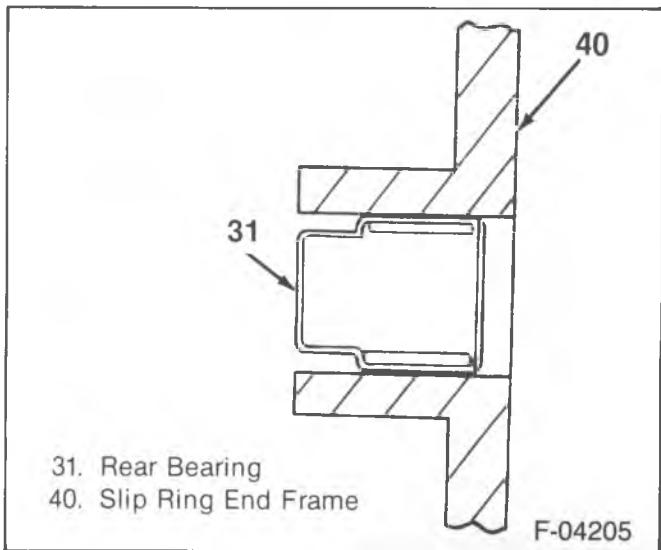

Figure 15—Slip Ring End Frame Bearing
- Bearing (31).
- Press the bearing flush with the outside of the end frame (figure 15).